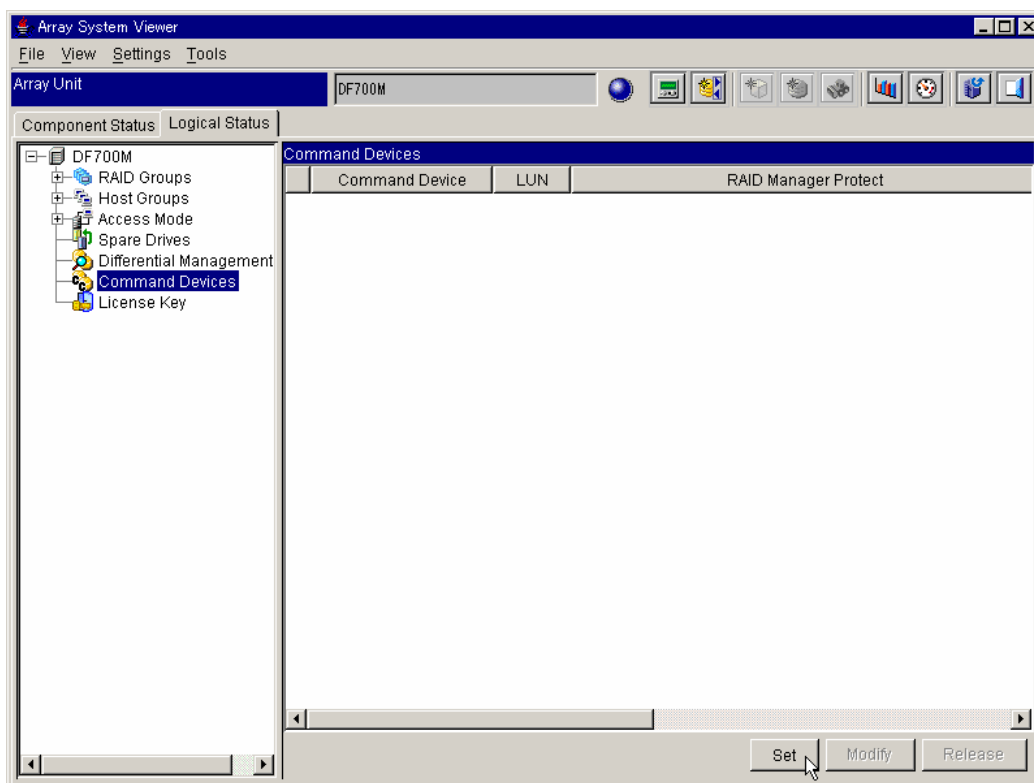

Figure 4.24 Setting Command Devices
2. Click the **Command Devices** icon to display the **Command Devices Settings** window (see Figure 4.24).
1. Click the **Logical Status** tab on the **Array System Viewer** window, and then click the **Command Devices** icon (refer to Figure 4.24).